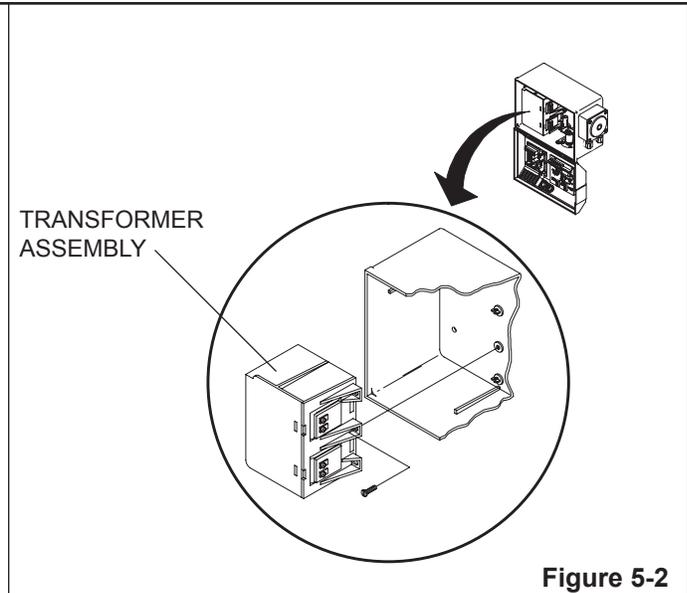

Figure 5-2
The GeoCenter is shipped with two (2) 30 VA transformers, one for the detergent control system and the other for the rinse injector. Install the assembly into the GeoCenter according to *Figure 5-2*.
1. Remove the built-in transformers from the GeoCenter Cabinet, refer to Figure 5-2.